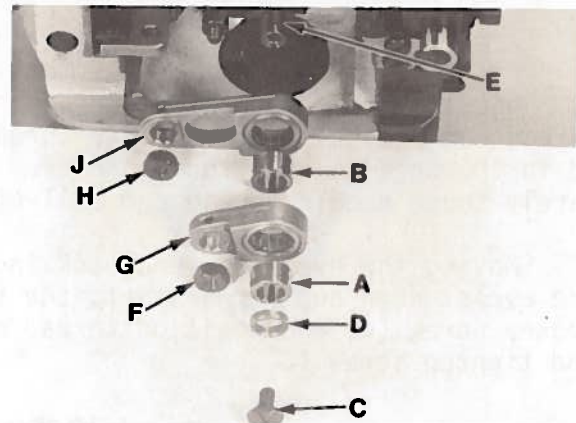

Fig.22
Length of stitch is determined by the combination of feed eccentrics used. Outer (left) eccentric (A, Fig. 22) actuates main (rear) feed dog while inner (right) eccentric (B) actuates differential (front) feed dog.